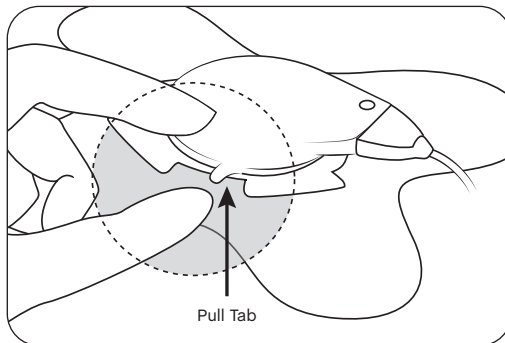

figure 12: Removing Applicator
- B. Remove the applicator from the **sam** Ultrasound Coupling Patch by gently prying from the tab on the side of the gel cup. This unlocks the cup from the applicator (See Figure 12).